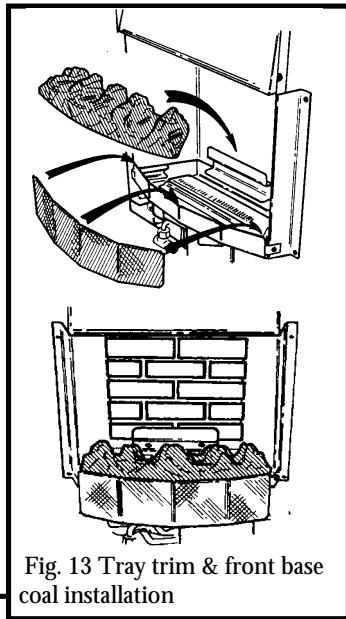

Fig. 13 Tray trim & front base coal installation
7.1 Make sure that the tray trim is fitted over the front edge of the burner tray and that it is pushed fully down. See figure 13. Place the front base coal in the burner compartment so that it rests on the ledges at the sides and front. Pull the coal forward so that it is immediately behind the front rim of the burner compartment. (See figure 13).